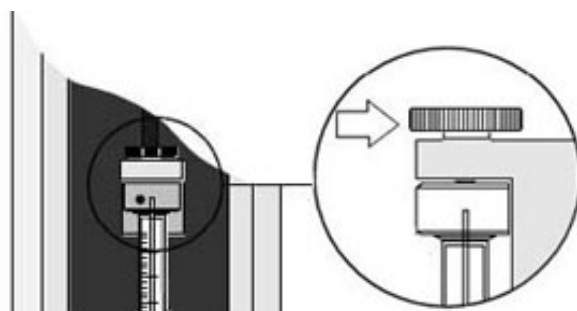

Fig. 62: Releasing the plunger holder
- c) Release the plunger holder by loosening the screw that fixes the plunger holder (→ Fig. 62, page 126).